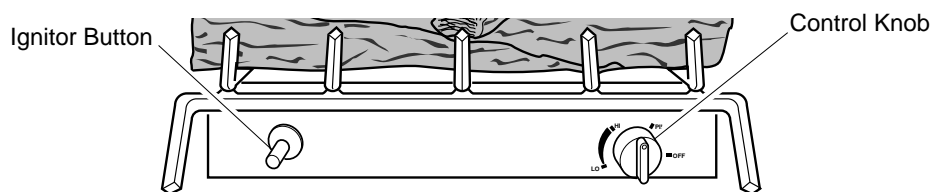

Figure 22 - Control Knob and Ignitor Button Location *Continued*
4. Wait five (5) minutes to clear out any gas. Then smell for gas, including near the floor. If you smell gas, STOP! Follow “B” in the safety information on page 21. If you don’t smell gas, go to the next step.
5. Slightly depress and turn control knob counterclockwise  to the PILOT position. Keep control knob pressed in for five (5) seconds (see Figure 22, page 22).